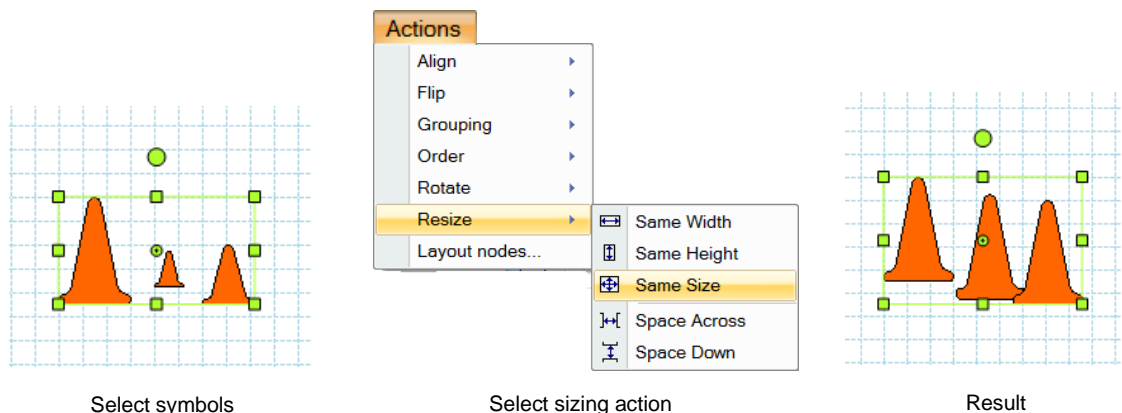

Figure 120. Resizing Symbols Example
Symbols can be resized to be the same height and width as other symbols, as well as be proportionally spaced on the drawing page. The change is based on the first selected symbol in the group. In the example in Figure 120, the cone on the left was the first selected symbol before the **Same Size** command was selected.
- 1. Resize symbols from the Actions menu, as shown in Figure 120.